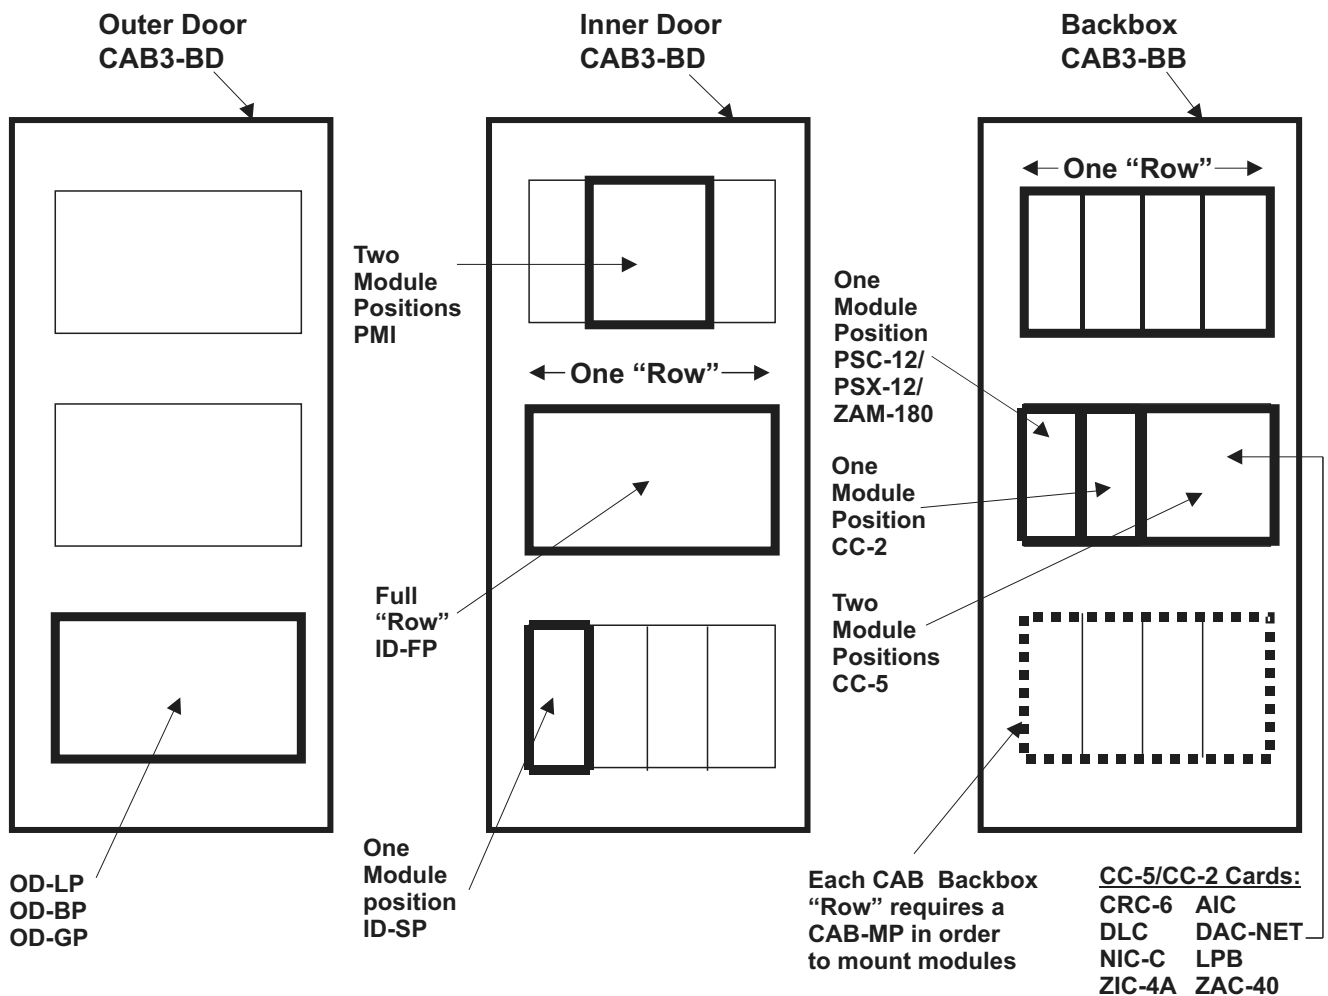

Figure 2-1
1. Install the desired enclosure; CAB1, CAB2 or CAB3. Refer to the CAB Enclosure Components table on page 2-2 to select the appropriate installation instructions. Refer also to Figure 2-1 on page 2-3 for information on CAB rows and module placement.